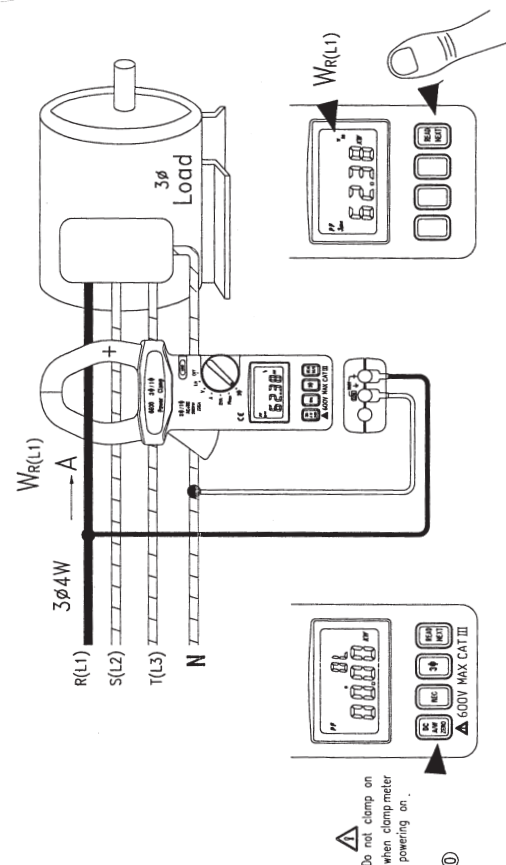

Fig.10
- 3.8.2. Firstly, measure W_R (or W_{L1}) (refer to figure 10).